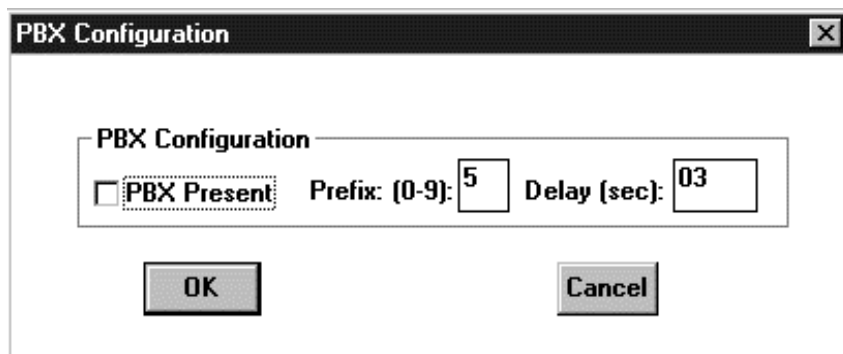

Figure 5.6.2.12
- a) After selecting the **PBX Configuration** per section 5.6.2.1, the following *PBX Configuration* window (Figure 5.6.2.12) will appear: